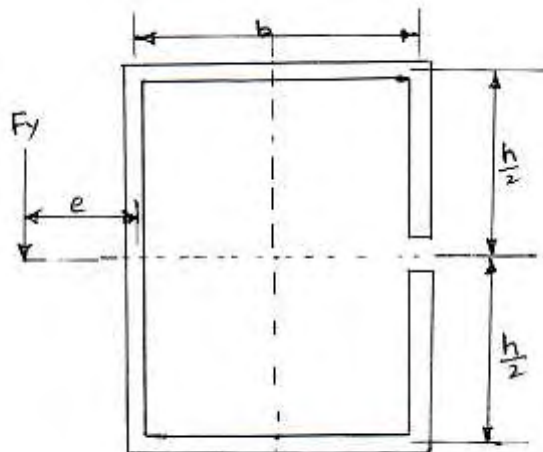

Figure 3
3. A cross section of a slit rectangular tube of constant thickness is shown in figure 3. Show that shear centre $e = \frac{b(2h+3b)}{2(h+3b)}$. [16]